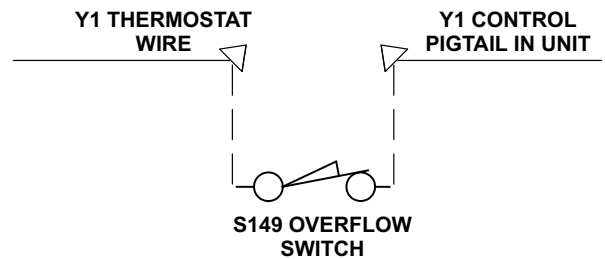

FIGURE 4
- 6- Make wire connections as shown in figure 4.